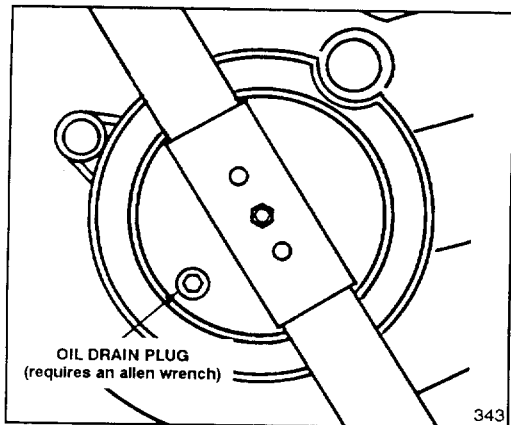
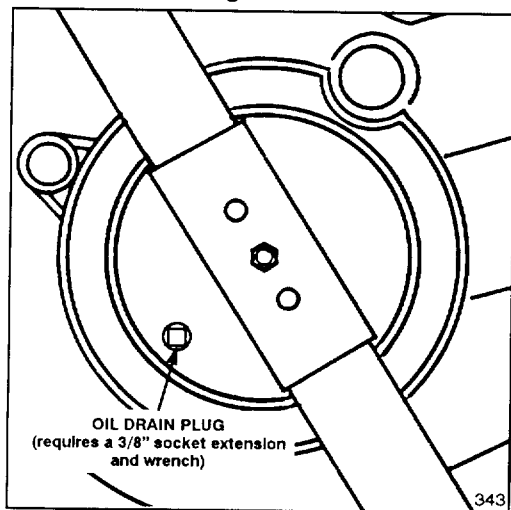

Figure 24
Figure 25
3. Tip mower on its right side. Remove drain plug from underside of mower using a 5/16" allen wrench (Fig. 24) or 3/8" socket extension with a wrench for turning (Fig. 25). Plug style will vary.